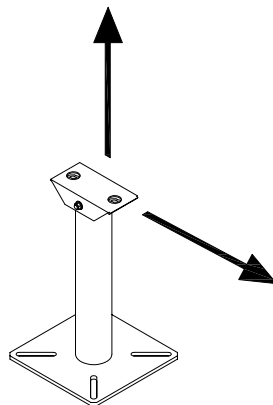

Figure 9.1
- After installation, perform a traction test (the **ECONOMY LINE** devices can be pulled in all directions) (see **Figure 9.1**).